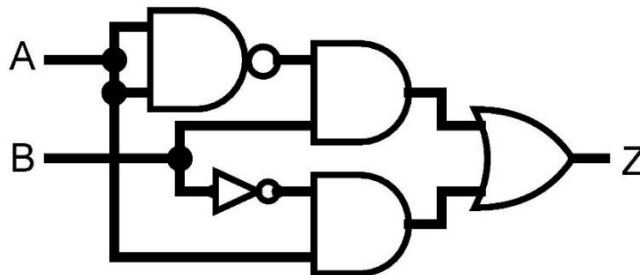

Figure 3(d)
- (d) An equivalent logic gate circuit of PLC control system is shown in Figure 3(d). Construct the ladder logic diagram and the relay schematic for the PLC control system shown in Figure 3(d). The inputs A and B are represented by Pushbuttons and output Z is represented by Pilot Light.